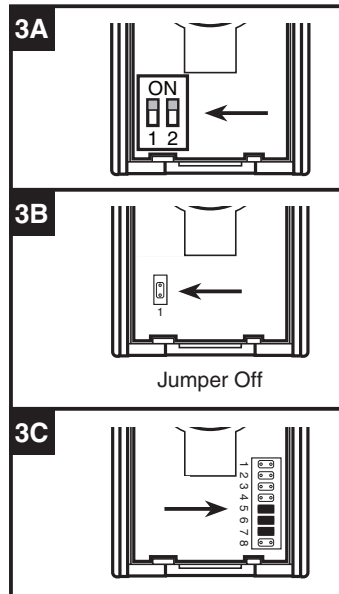

Figure 6
3. Look inside the push button and determine which type of push button will be connected to the chime (see Figure 6).